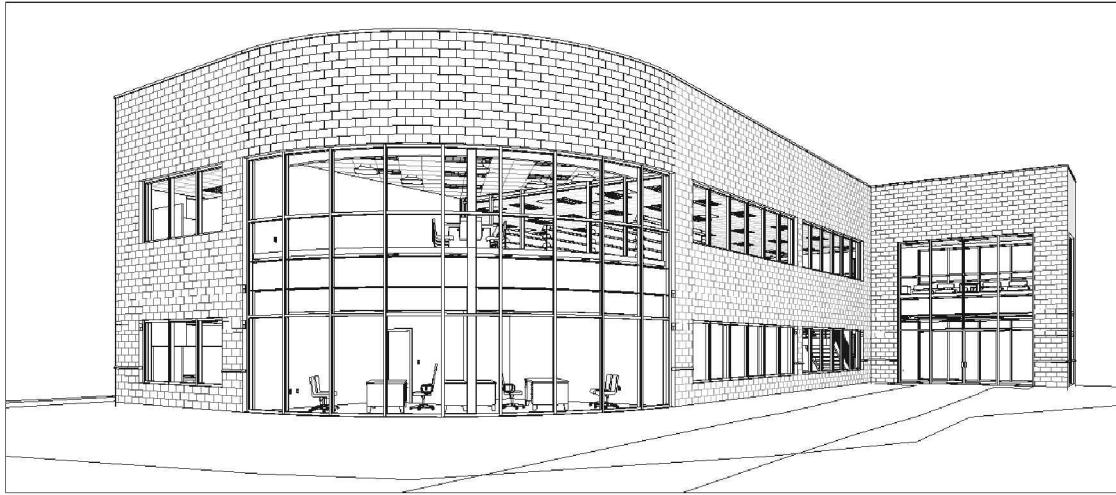

FIGURE 15-2.3 Revised camera – 3D View 1
5. In **3D View 1** adjust the **Crop Region** to look similar to **Figure 15-2.3**.